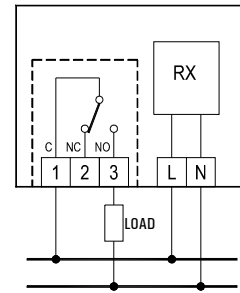

Fig. 7
- 6 Make the electrical connections according to the most suitable wiring diagram (see Fig. 7 - 8 and the paragraph "electrical connections").
Follow the connection layout shown in Fig. 7 or 8.
Terminals 1, 2 and 3 are the SPDT contacts of the output relay. In Figure 7 is shown how to connect a valve, which will be powered when the output is enabled and that is to say when the thermostat calls for heat (heating) using the NO contact of the relay.